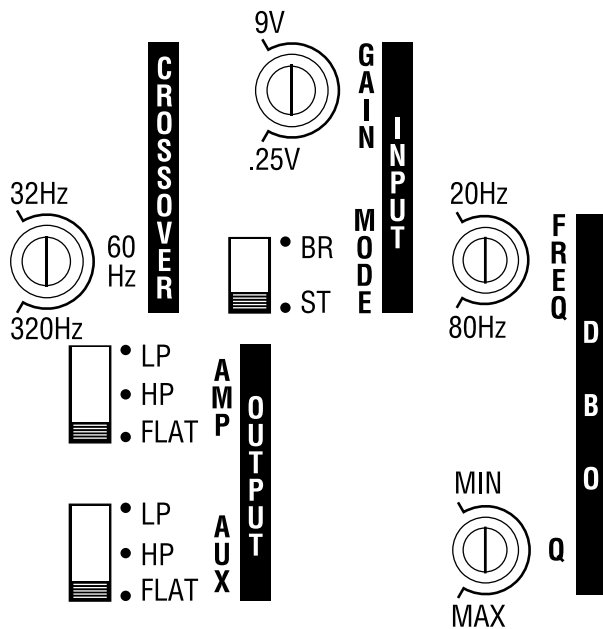

Figure 8. Kappa 102a controls for crossover, input, output, and DBO (Dynamic Bass Optimizer).
**IMPORTANT: If you plan to use the Kappa 102a to drive full-range speakers, set both AMP and AUX filters to FLAT (refer to Figure 1 on page 3 and Figure 8 below) and skip to the next section, "Setting Input Sensitivity".**
1. Set the CROSSOVER control to the frequency recommended by speaker manufacturer (refer to Figure 8). If the value is unknown, set the control midway.
2. Depending on your system plan, set the AMP and AUX switches to LP (low-pass), HP (high-pass), or FLAT (refer to Figure 8).
Initially, turn the input sensitivity GAIN control to its minimum (counter-clockwise) position (refer to Figure 8).